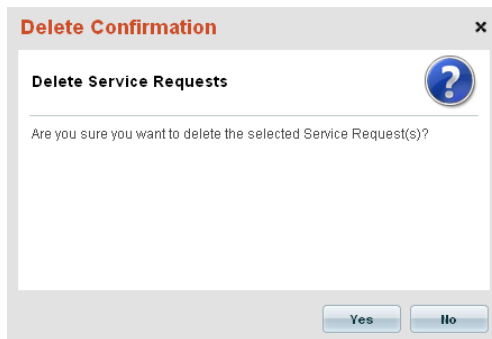

FIG. 203 Delete Confirmation dialog - Delete Service Requests
3. Click **Delete** to delete the selected Service Requests. The program will prompt you to verify this action (FIG. 203):